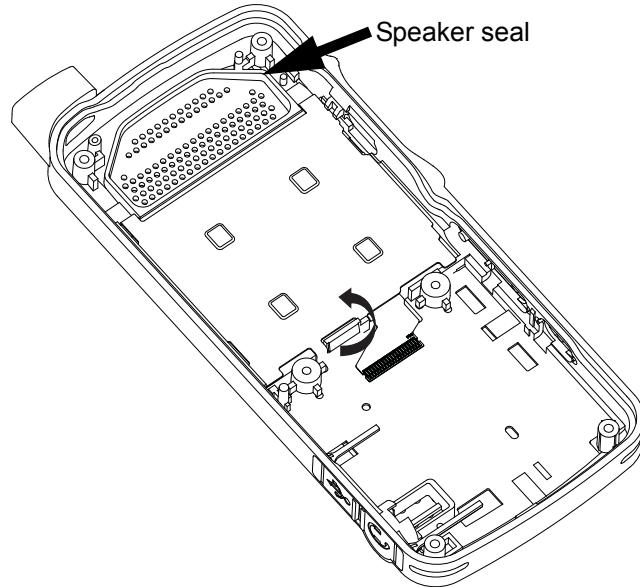

Figure 5-20. Display retainer lock reassembly
4. Insert the speaker seal as shown in Figure 5-20.